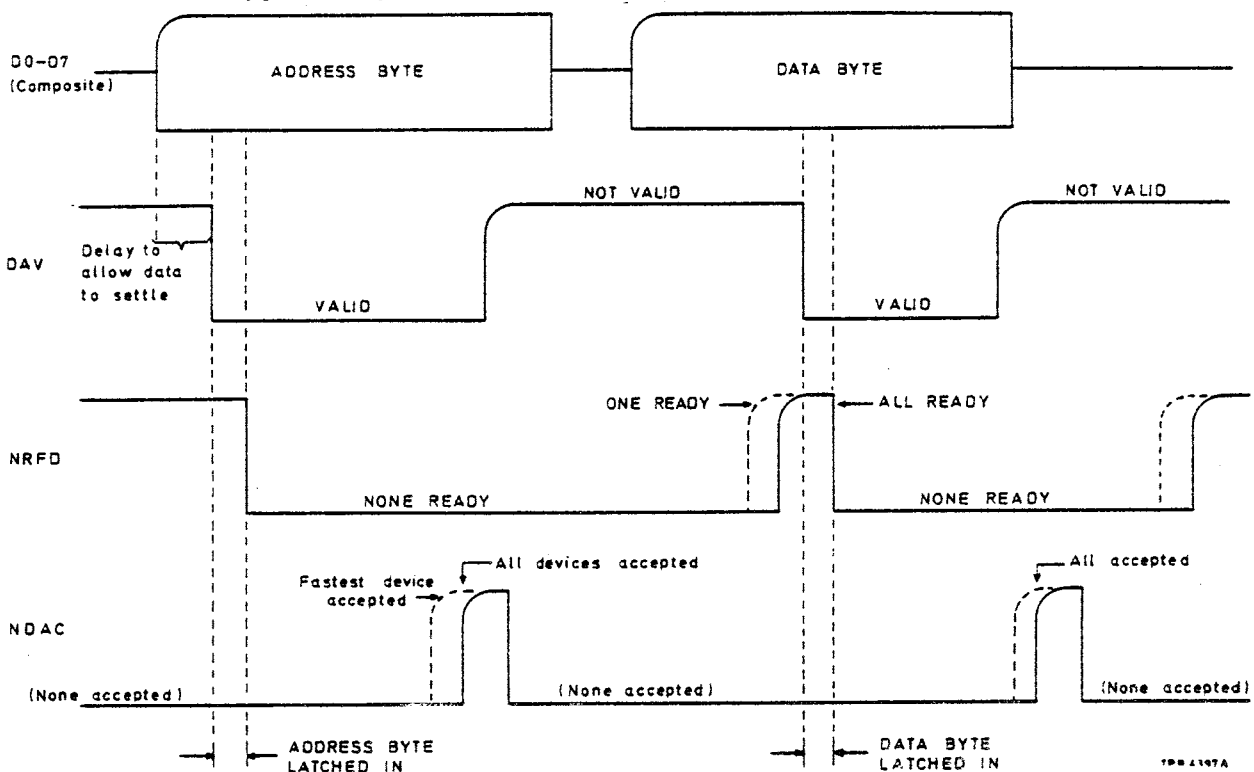

Fig. 19 Handshake procedure
- (v) Talker removes DAV, listeners assert NDAC, and the bus reverts to its initial condition ready for the next data byte, a typical cycle is shown below in Fig. 19.